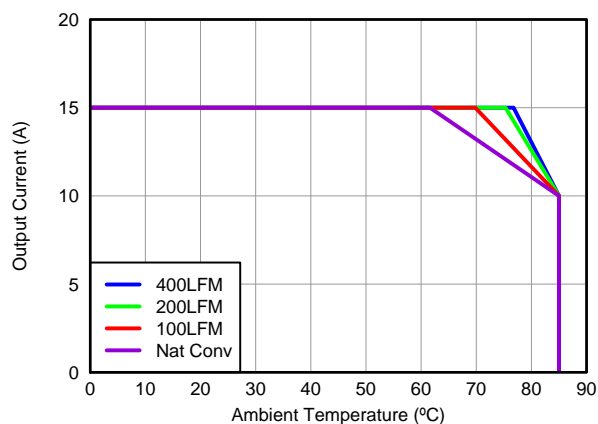
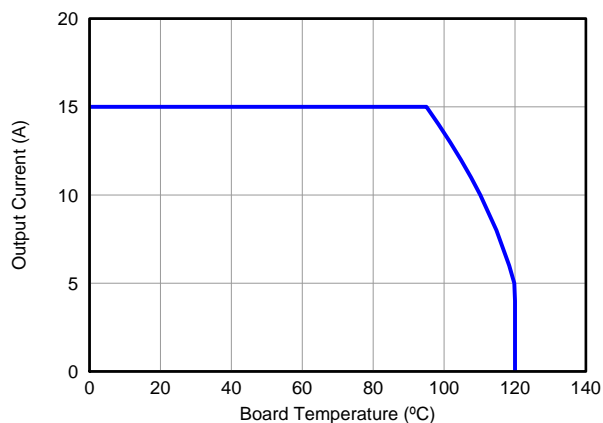

Figure 3. Safe Operating Area – PCB Vertical Mount⁽¹⁾
Figure 5. Typical Safe Operating Area⁽¹⁾
The SOA curves in the CSD87331Q3D data sheet provides guidance on the temperature boundaries within an operating system by incorporating the thermal resistance and system power loss. Figure 3 to Figure 5 outline the temperature and airflow conditions required for a given load current. The area under the curve dictates the safe operating area. All the curves are based on measurements made on a PCB design with dimensions of 4" (W) × 3.5" (L) × 0.062" (T) and 6 copper layers of 1 oz. copper thickness.